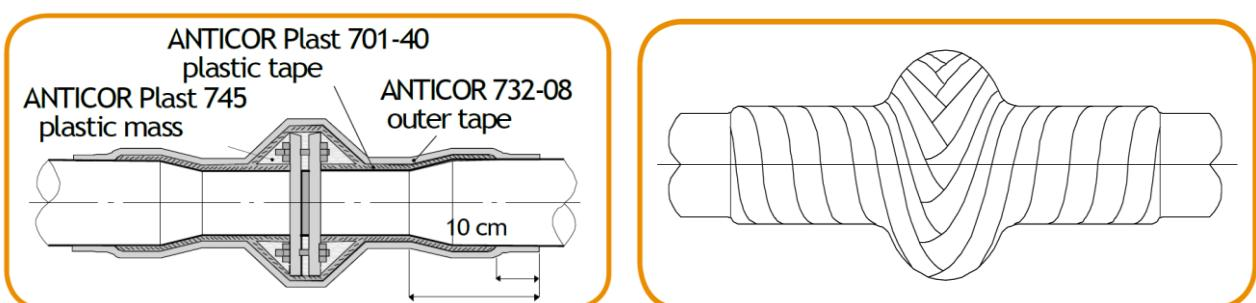

Figure 2. Flange connection diagram.
2. Spiral the ANTICOR Plast 701-40 tape around under slight pre-tension, **with the plastic mass facing the protected surface**, double wrap with 50% overlap, covering around 5 cm of the existing insulation with the first winding and approx. 10 cm with the second one (see figure 2).
4. Wrap the ANTICOR Plast 732-08 tape under tension, with 50% overlap, around the entire surface of the coating that was previously formed with the ANTICOR Plast 701-40 tape. Tension of the tape should ensure its adhesion to the previously applied coating without wrinkles and air pockets (see figure 2).